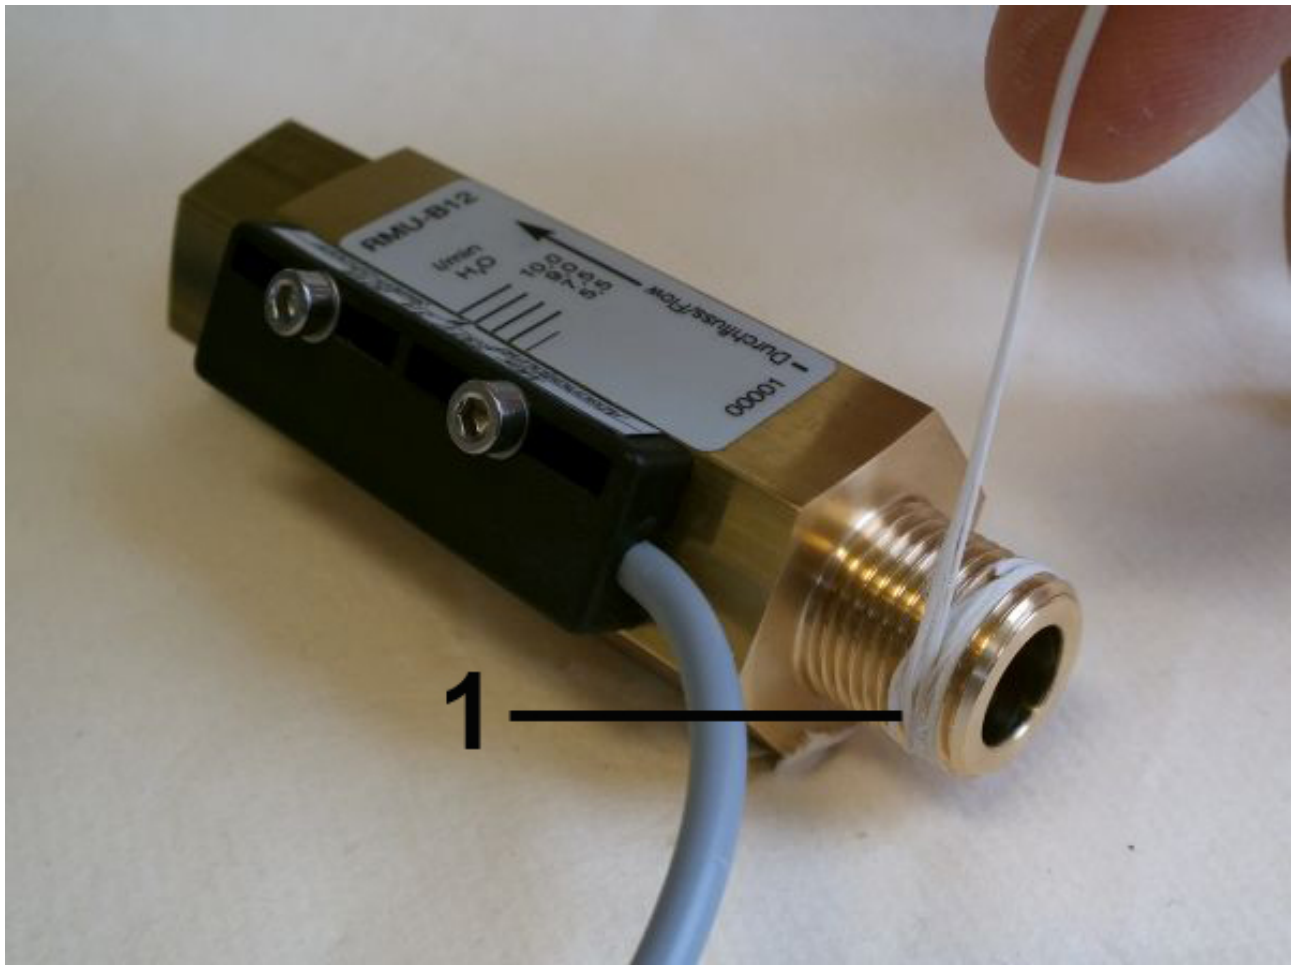

Fig. 9: Apply sealing thread
2. ➤ Apply sealing thread (Fig. 9/1) to the napped area of the connecting thread in the threaded direction. Observe the quantity recommended by the sealant manufacturer.